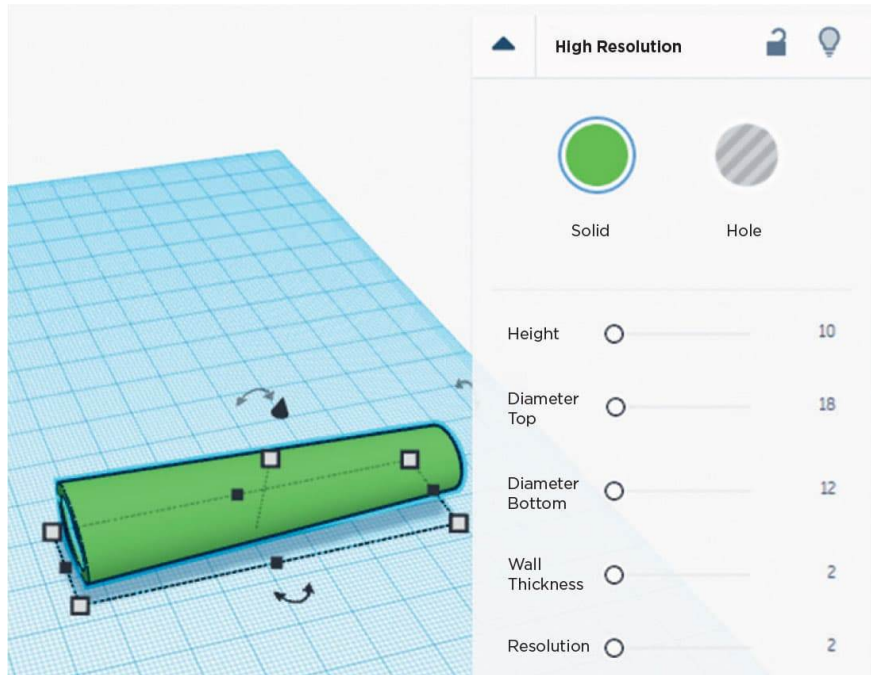

FIG. 3: Copy the upper arm and resize it to create the forearm.
4. The forearm is modeled using the same tool as the upper arm (fig. 3). The dimensions of the larger end must match the dimensions of the ball in the elbow joint.